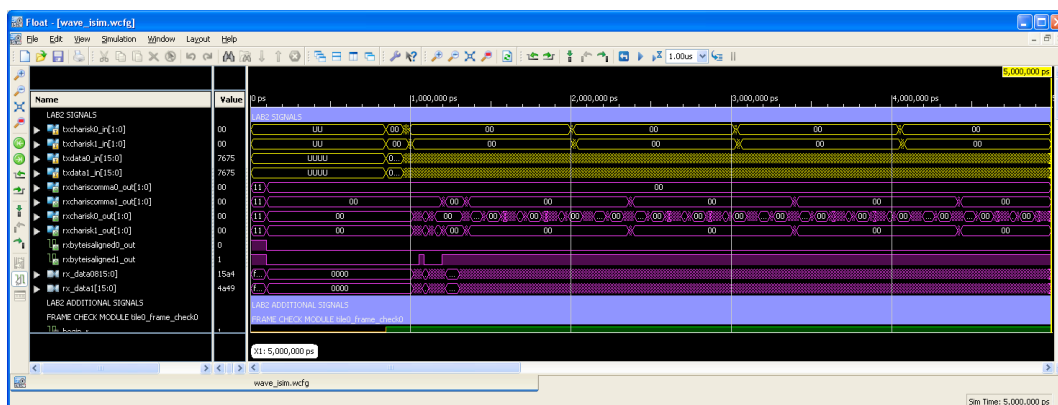

Figure 1. Simulation Results
- 2.1.7.** In ISim, enter **5.00us** and click the **Run For** button. Examine the simulation results (Figure 1).